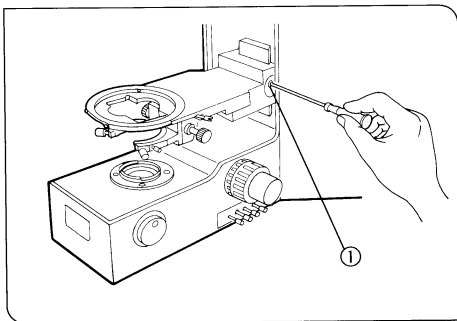
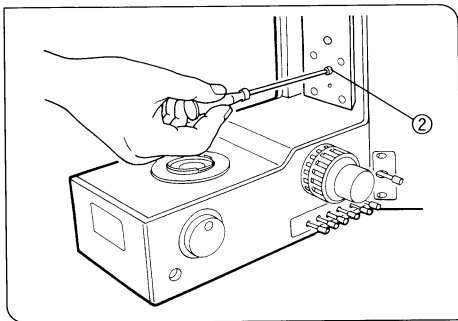

Fig. 35
Fig. 36
(Figs. 35, 36)
2. Using the Allen screwdriver or the Allen wrench, loosen the substage bracket clamping screw ① and remove the substage. (Fig. 35)
3. Using the Allen screwdriver, loosen and remove the upper stopper screw ②.
4. Then attach the stopper screw ② to the lower screw hole. (Fig. 36)